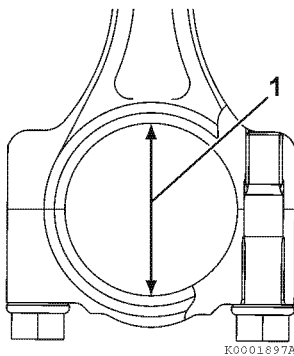

Figure 6-57
2. Inspect the bearing insert for separation or damage (**Figure 6-57**).
4. Measure the inside diameter (1, **Figure 6-57**). Record the measurement. Compare the measurement with crankshaft rod journal outside diameter to calculate oil clearance. See *Crankshaft on page 6-7* and *Piston on page 6-9* for specifications.